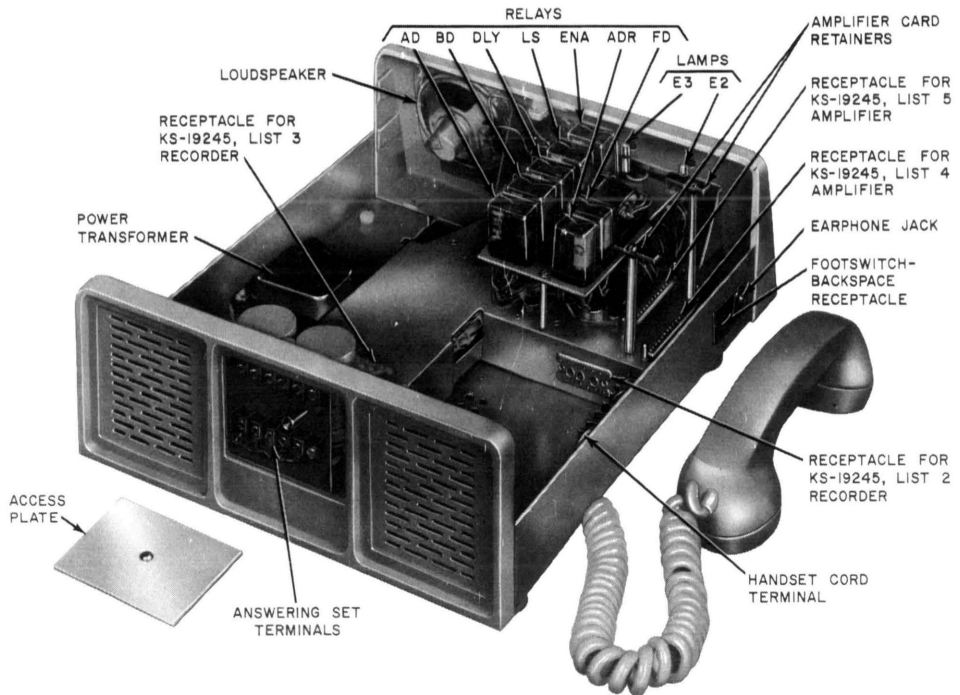

Fig. 4—KS-19245, List 1 Telephone Answering Set, Cover and Plug-In Components Removed
- (3) Plug new recorder into the plug-in receptacle (Fig. 4).
- (4) Replace and tighten the three retaining screws.
- (5) Replace outer cover and tighten four retaining screws.
- (5) Firmly grasp chassis of List 3 recorder and carefully withdraw until plug-in receptacle is disengaged (Fig. 4).
- (7) Plug new recorder into the plug-in receptacle (Fig. 4).
- (8) Replace and tighten the three retaining screws.
- (9) Replace List 6 cartridge (6.02).
- (10) Replace side and top covers.
- (1) Remove top cover of answering set (2.01).
- (2) Loosen retaining screws of the circuit board retainers.
- (3) Remove amplifier from its plug-in receptacle.
- (4) Plug new amplifier into plug-in receptacle (Fig. 4) and tighten screw of circuit board retainers.
- (5) Replace top cover.
### 3.04 Replacement of AD, BD, DLY, ENA, ED, LS, or ADR relays (Fig. 4):
- (4) Plug new relay into the plug-in socket (Fig. 4).
- (5) Engage wire spring retainer.
- (6) Replace top cover.
- (1) Remove top cover (2.01).
- (2) Remove KS-19245, List 3 recorder (3.02).
- (3) Unsolder speaker leads.
- (4) Remove four nuts and withdraw speaker (Fig. 4).
- (5) Install new speaker and tighten nuts.
- (6) Solder speaker leads.
- (7) Replace List 3 recorder.
- (8) Replace top cover.